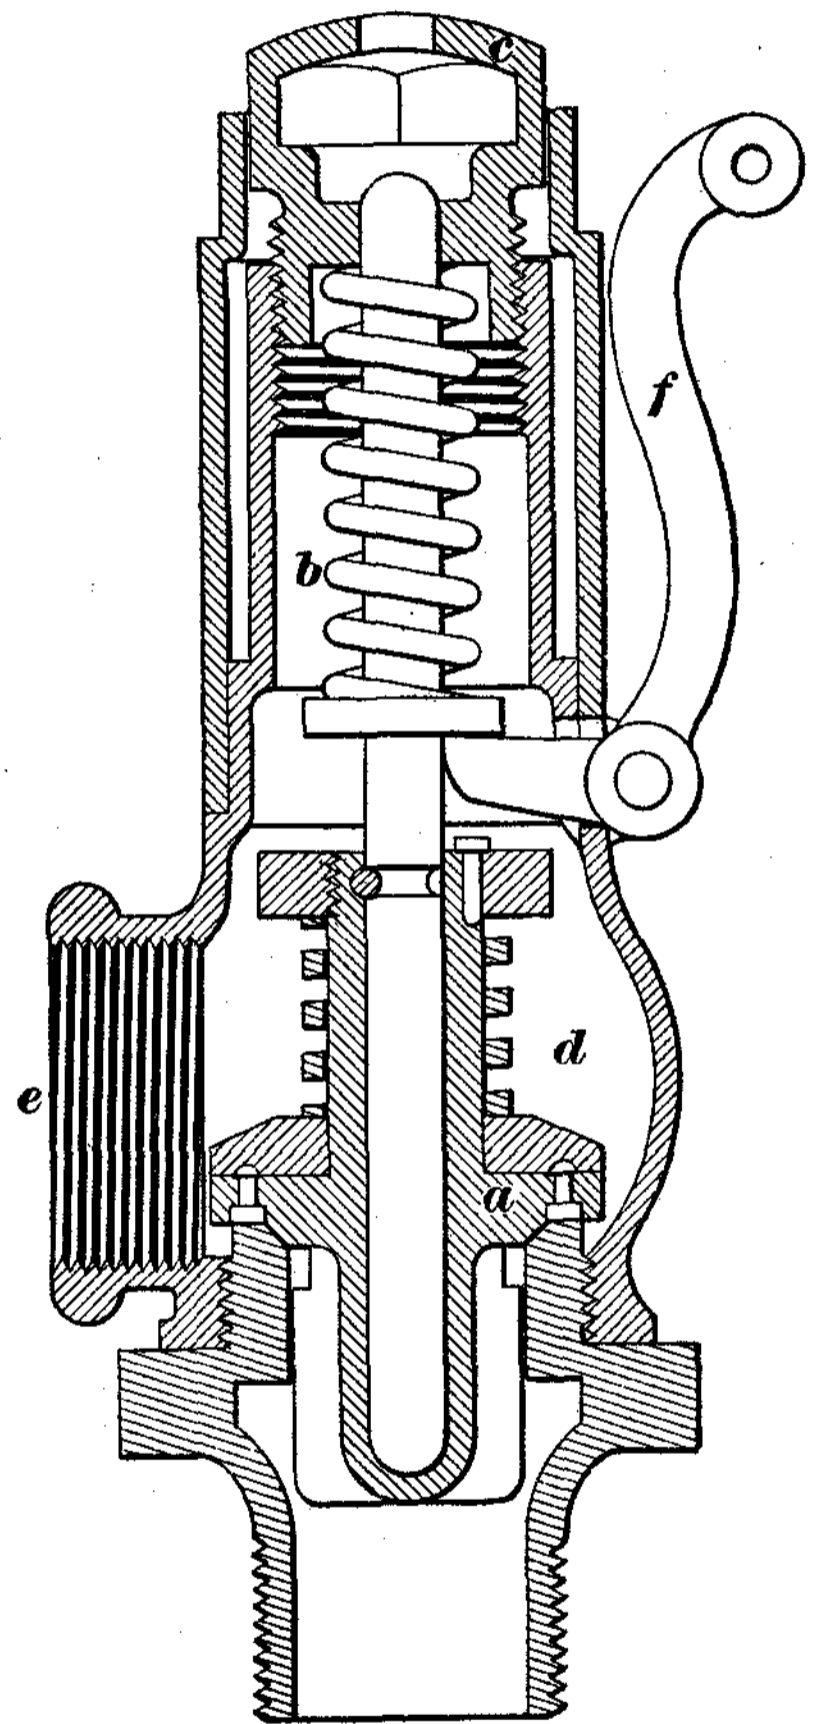

FIG. 3
8. A spring-loaded safety valve is shown in Fig. 3. The valve *a* is held down by a helical spring *b*, the tension
11. The safety valve should in all cases be attached to the boiler in such a manner that it is an absolute impossibility to shut off connection between the boiler and its safety valve. It should be fitted with a chain, leading to some convenient spot, for raising the valve off its seat. The spring-loaded safety valve usually has a bell-crank lever, as *f*, Fig. 3, to which the chain is attached.